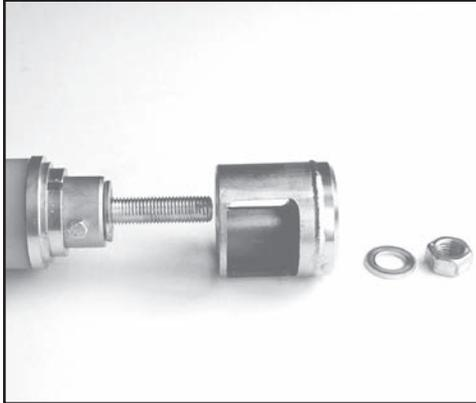

**FIG. 64: INSTALLING CONTROL SLEEVE SEAL**
3. Place the control sleeve seal, with its special tool into the inner groove of the control sleeve in the shape of a kidney (see Fig. 64).